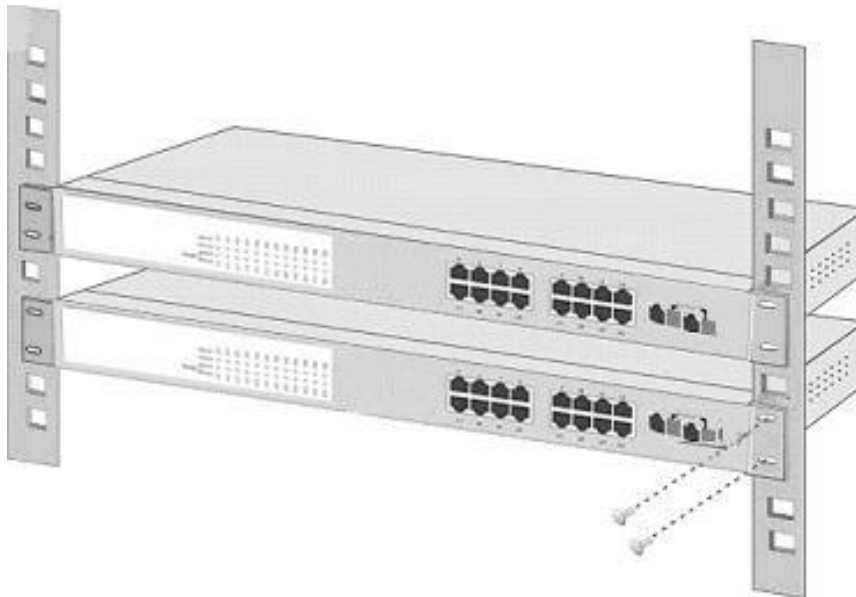

Figure 2-5 Mounting the Web Smart PoE Switch in a Rack
Step 5: After the brackets are attached to the Web Smart PoE Switch, use suitable screws to securely attach the brackets to the rack, as shown in Figure 2-5.